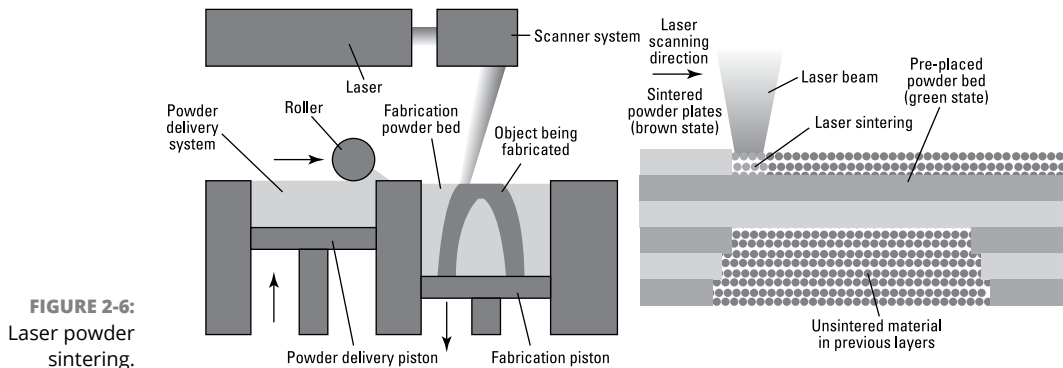

FIGURE 2-6: Laser powder sintering.
- » *Sintering* (combining powders by heating them below their melting point, as shown in Figure 2-6)